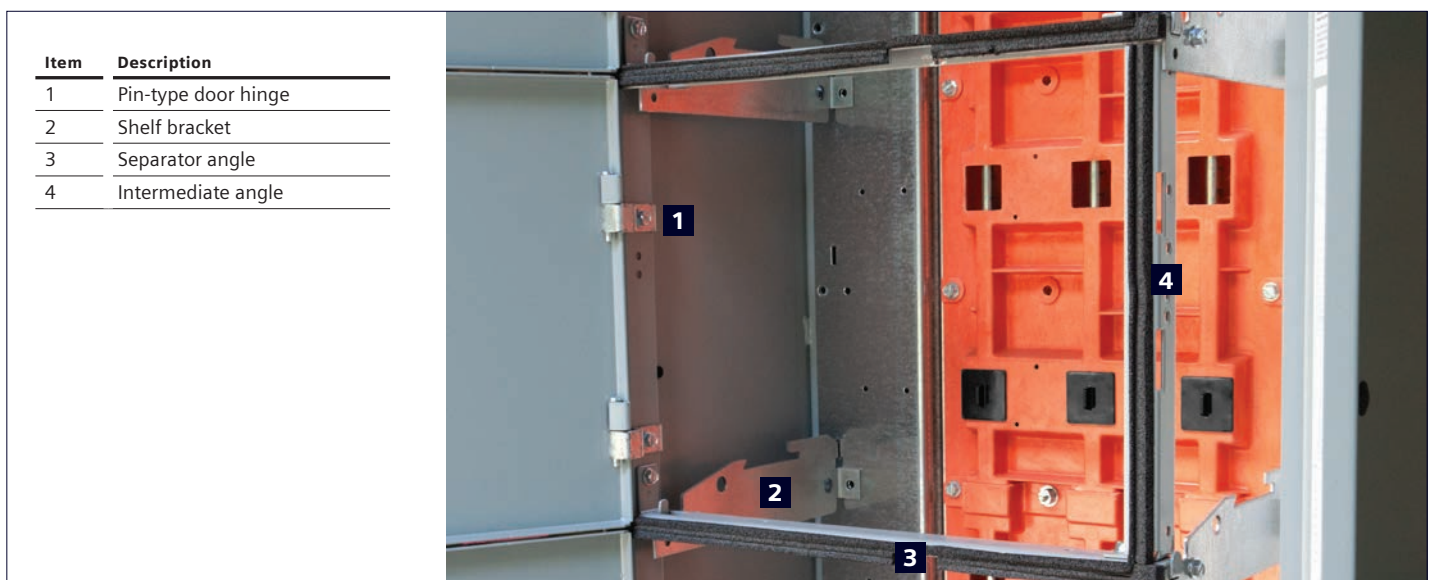

Figure 2: Unit support components
3. If necessary, install unit-support assembly by inserting shelf brackets at a slight angle into the appropriate holes in the vertical bus-support angle and snapping into place (refer to Figure 2). Secure support assembly with the two screws provided. One screw fastens the right-hand shelf bracket to the vertical bus-support angle. The second screw fastens the separator angle to the left side of the structure.